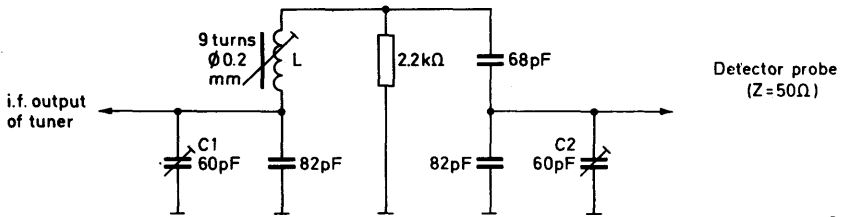

Fig. 7
(3) Adjust the trimmers C1 and C2, coil L (fig. 7) and the i. f. output coil of the tuner (L21), to get the resonant curve with maximum gain as shown.